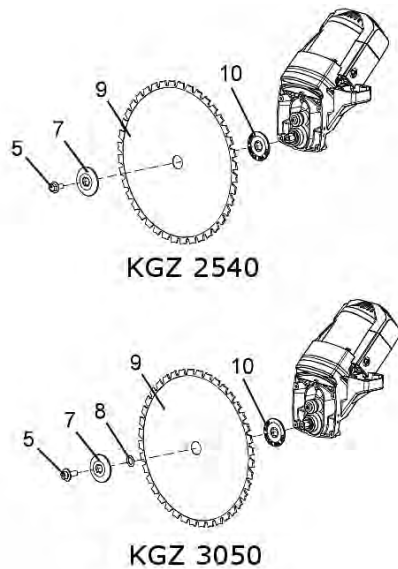

Fig. 48: Removing the saw blade
Step 8: Press and hold the locking button (6) while turning the saw-blade key clockwise. This will engage the canopy lock and the mandrel bolt can be released with the blade key. Keep the locking button (6) depressed while turning the key clockwise to release the locking bolt.
Step 9: KGZ 2540: Remove the mandrel screw (5), the saw blade ring (7) and the saw blade (9). Do not remove the inner saw blade ring (10) (Fig. 48).
KGZ 3050: Remove the mandrel screw (5), the saw blade ring (7), the reducer (8) and the saw blade (9). Do not remove the inner saw blade ring (10) (Fig. 48).
Step 4: KGZ 2540: Place the outer saw blade ring (7) on the saw blade (9) and on the mandrel screw (Fig. 48).
KGZ 3050: Place the reduction piece (8) against the saw blade (9) and place the reduction piece (8) on the shaft (Fig. 48).